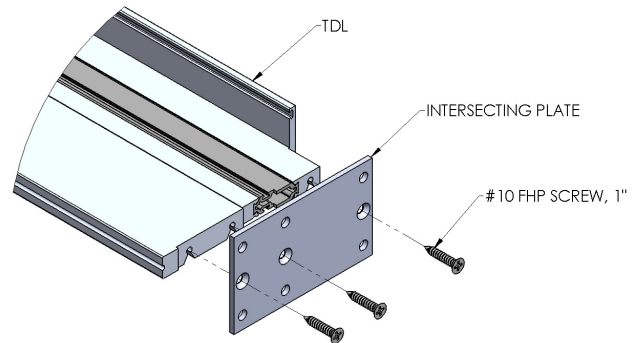

Figure 7:
2. If intersecting plate does not come attached, use #10 X 1" FHP screw. Use wax to reduce Torque on screw head. Reapply wax as needed while inserting screw (Figure 7).